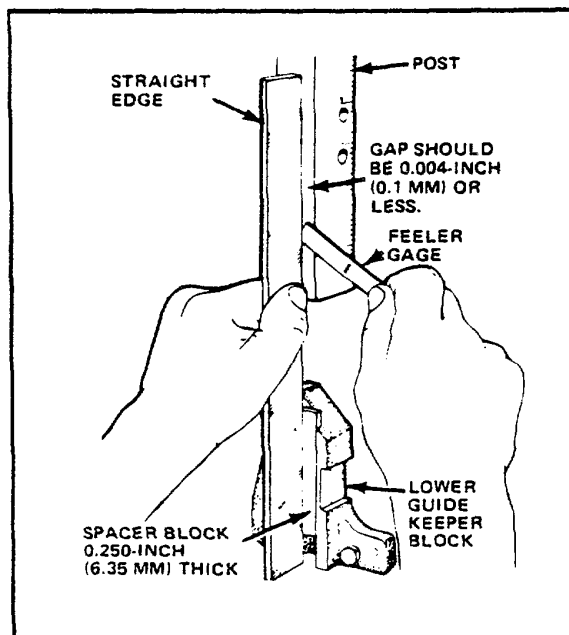

FIG. 1. ALIGN POST TO LOWER SAW GUIDE KEEPER BLOCK.
- (2) Re-install band over each wheel. Tension to maximum reading on tension indicator.
- (3) Shim between base mounting pads and floor until machine is level and weight rests evenly on all pads. Check by tapping with bar or hammer.
- (4) Post front should be parallel with lower keeper block's machined saw guide mounting recess. Check by placing spacer block - ground to exactly 0.250-inch (6.35 mm) thickness -- in keeper block. Place an accurate straight edge against spacer block and post. Use a feeler gage to check post clearance and parallelism to straight edge. Clearance should not exceed 0.004-inch (0.1 mm) in 4 inches (100 mm). See Fig. 1.